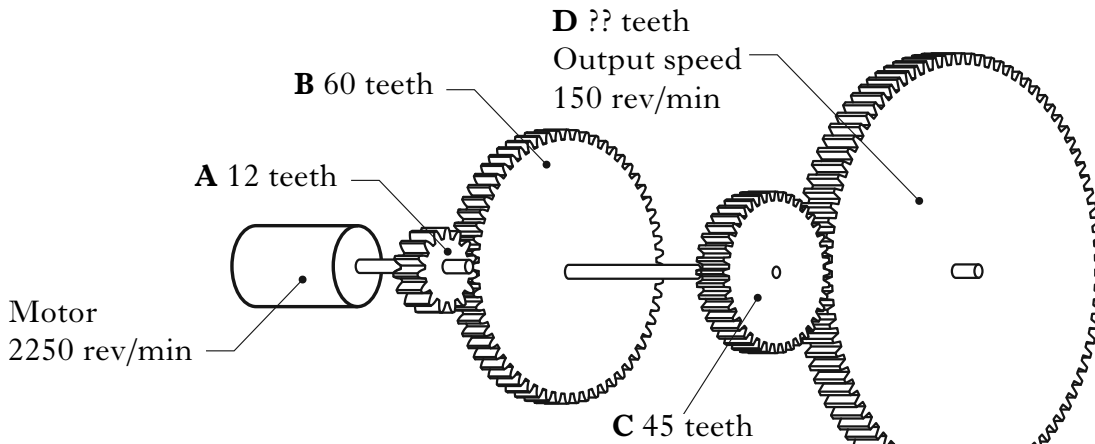

Figure Q8
8. A gear system for operating a theatre curtain is shown in Figure Q8.
(a) State the name of the type of gear system shown in Figure Q8.